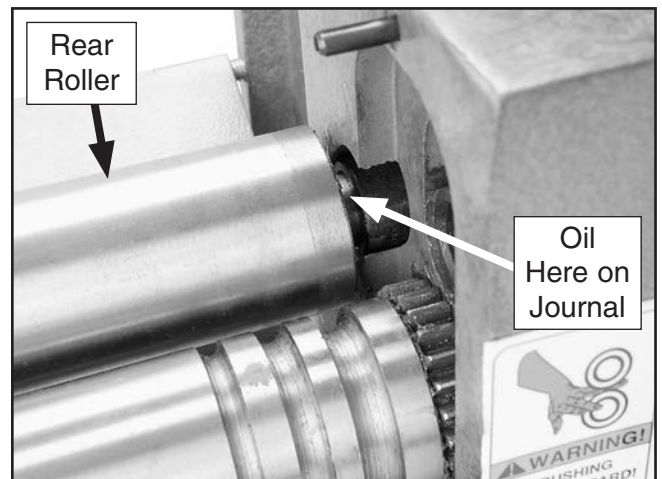

Figure 51. Rear roller journal.
5. Slide the rear roller to the left to expose the right-hand journal (**Figure 51**).
6. Using an oil gun filled with any standard non-detergent SAE 30W motor oil, squirt the right-hand journal with oil, and spin the roller to work the oil into the bushings (**Figure 51**).